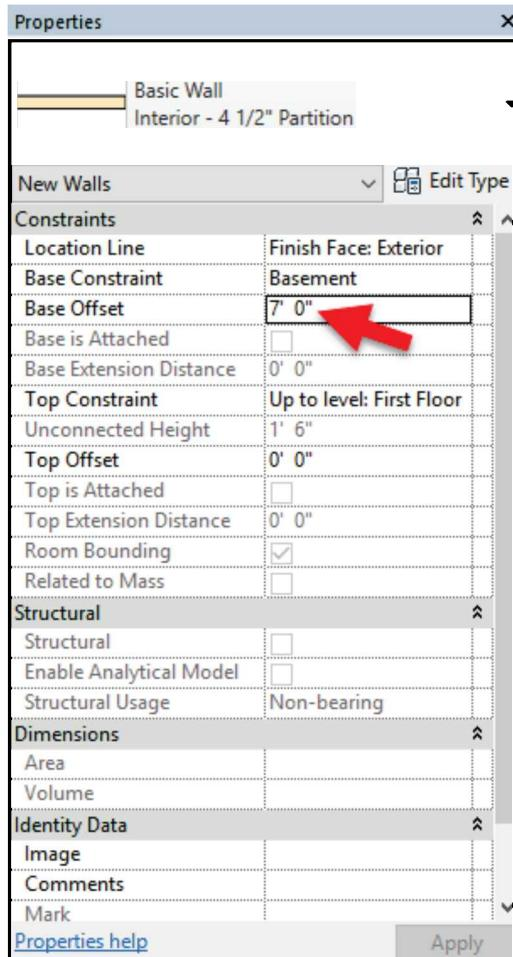

FIGURE 9-2.12 Bulkhead (wall) properties
35. In the *Properties Palette* set the *Base Offset* to **7'-0"** (Figure 9-2.12).
36. Set the *Top Constraint* to **Up to level: First Floor** (Figure 9-2.12).